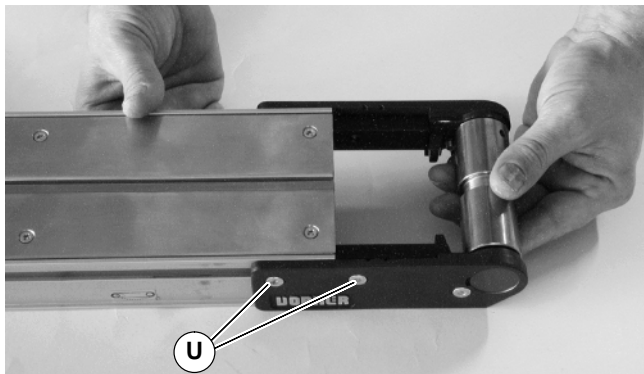

Figure 30
1. On both sides of conveyor, loosen two (2) fastening screws (U of Figure 30). Then slide idler pulley assembly out from the conveyor frame.